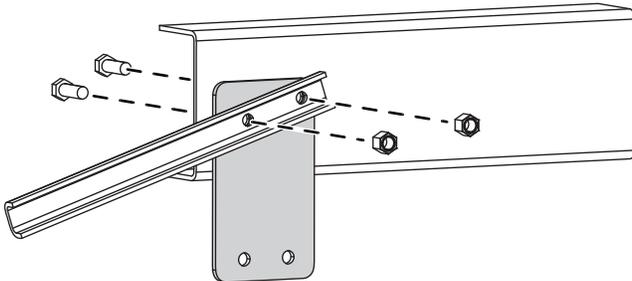

Figure 13
4. Slide the straps between the bracket and the frame and secure using the bumper-bracket hardware (Figure 13).